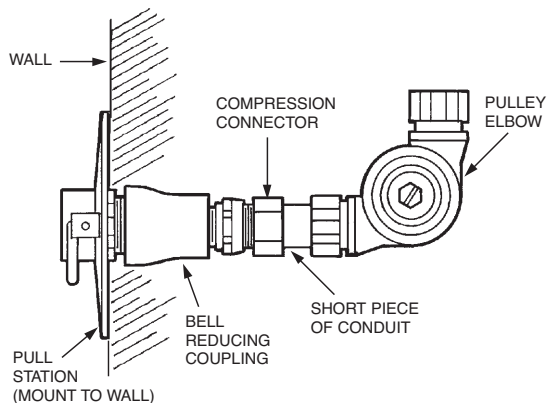

FIGURE 54a
- a. Thread 3/4 x 1/2 in. reducing coupling to bushing on back of each cover assembly. See Figure 54a.